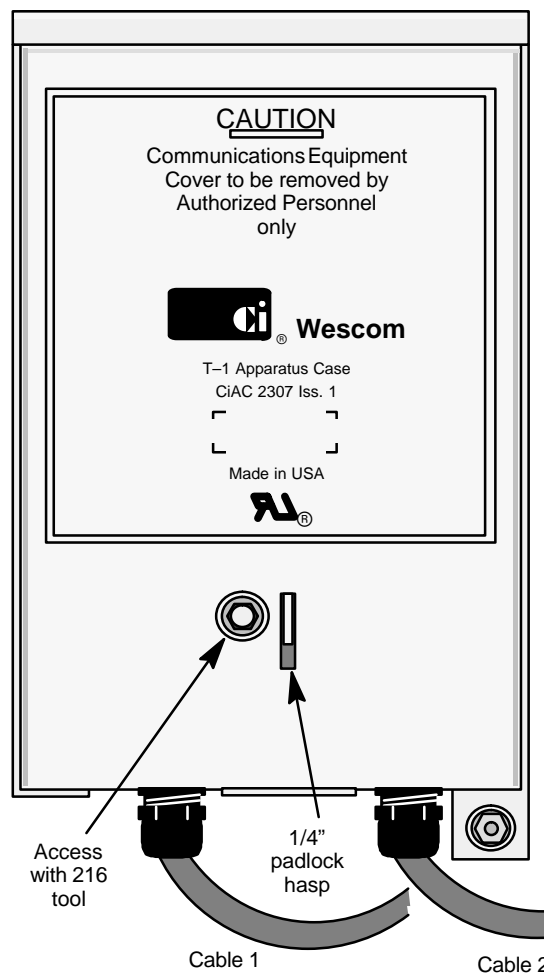
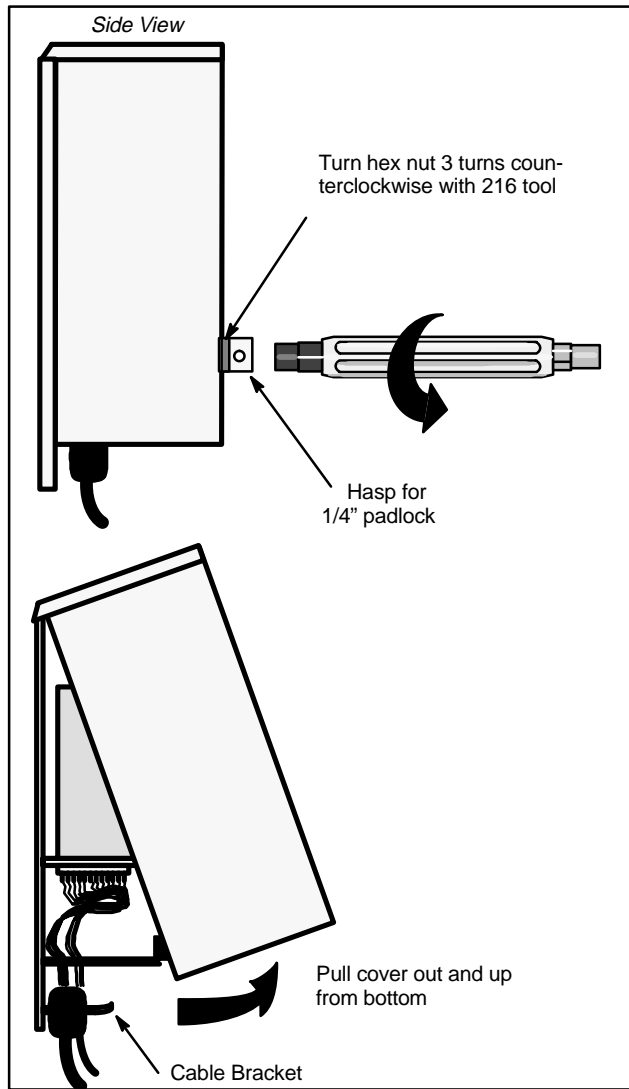

Figure 1. Front View, AC 2307
Figure 2. Removing Front Cover
This practice provides general and installation information for the Charles Industries AC 2307 Seven-Slot T1 Apparatus Case, shown in Figure 1.
The AC 2307 Apparatus Case is designed for indoor mounting at or near the customer's premises, and as depicted in Figure 1, is equipped with two factory prewired cable stubs.
The AC 2307 is equipped with a hasp on the front panel which can accept a padlock, with up to a 1/4" shackle, to provide added security. See Figure 1 and Figure 2.
1.	<p>Remove the cover of unit:</p> <p>Using a standard 216 tool, turn the hex nut in the cup washer a minimum 3 turns (approximately 90°) counterclockwise as shown in Figure 2.</p> <p>Grasp the bottom of the cover and pull out and up as shown in Figure 2.</p>